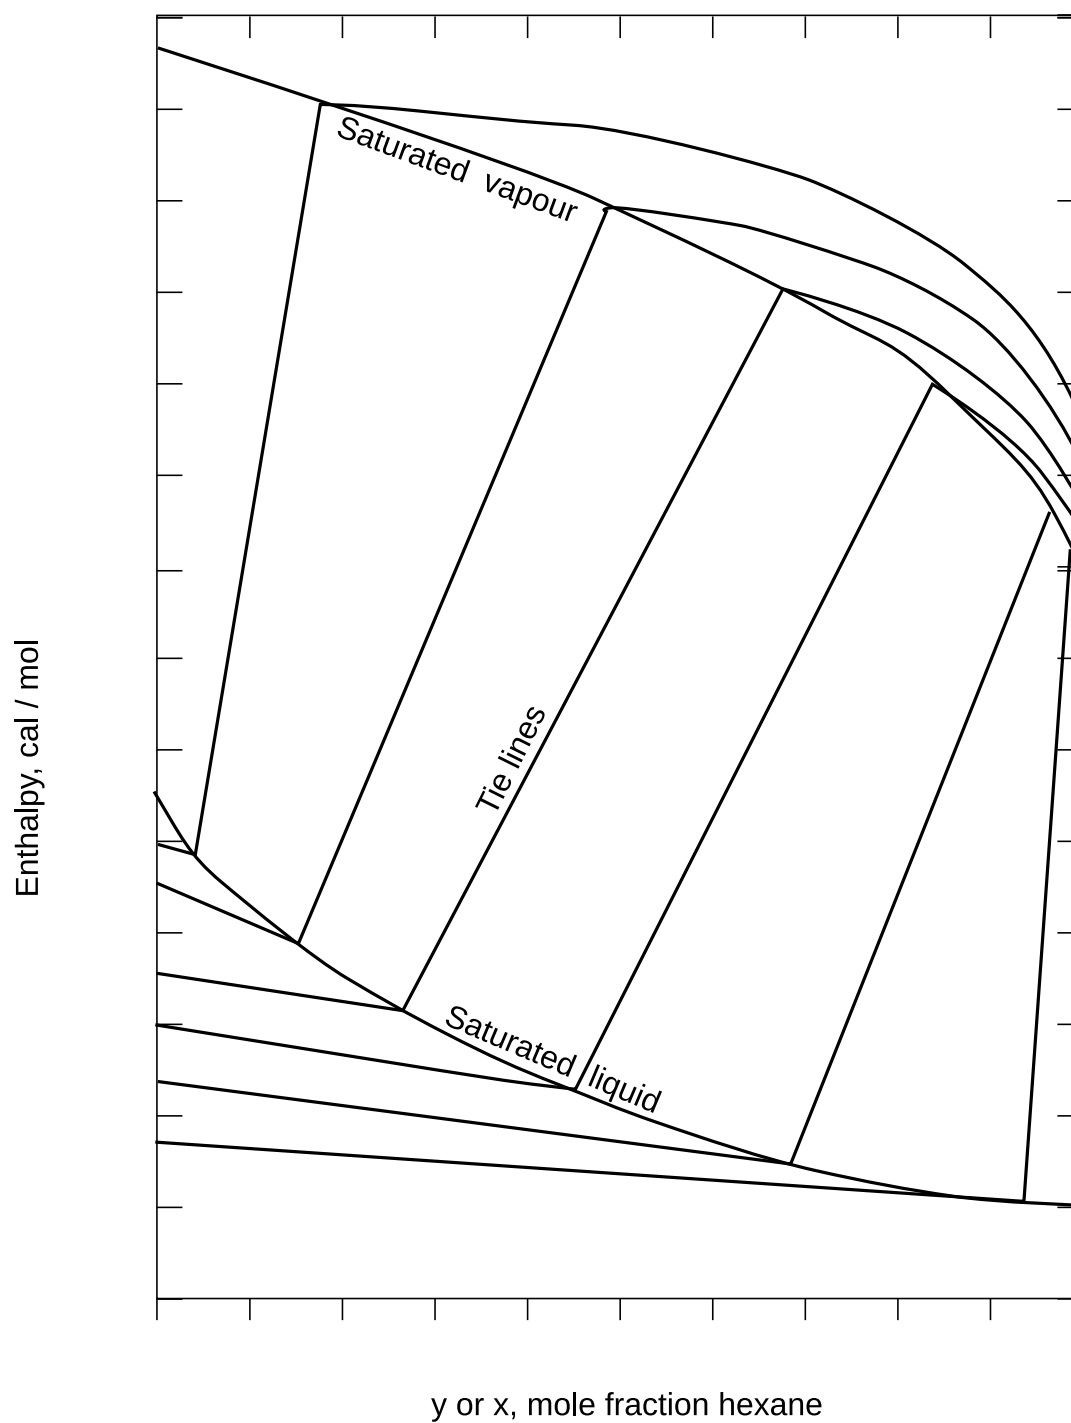

Figure 26: Enthalpy concentration diagram for hexane-octane mixtures at 760 mmHg. For use in Q. c, 39, and 40.
- c) A mixture of  $n$ -hexane and  $n$ -octane is to be separated by distillation to produce a bottom product containing no more than 3 mol%  $n$ -hexane and a top product of at least 95% purity of  $n$ -hexane. Using the enthalpy-composition chart (see Fig. 26), determine:
Using the enthalpy-composition diagram for hexane-octane in Fig. 26, construct a temperature-composition ( $T$ - $x$ - $y$ ) diagram and a  $x$ - $y$  diagram at the same pressure of 760 mmHg. The boiling temperatures of the pure components are 68.5 and 125.8°C.
An equimolar mixture of hexane and octane is throttled from a moderately high pressure into a flash vessel maintained at a pressure of 760 mmHg. Determine the temperature at which the vessel must be maintained for each of the following degrees of vaporisation ( $V/F$ ): 0.00, 0.25, 0.50, 0.75, 1.00. You will need the enthalpy-composition diagram for hexane-octane in Fig. 26.